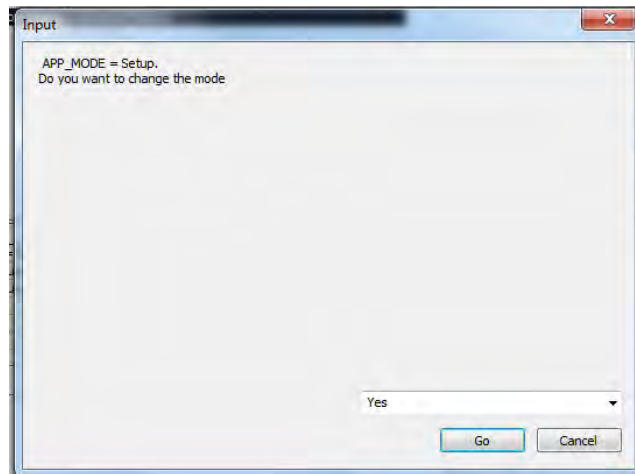
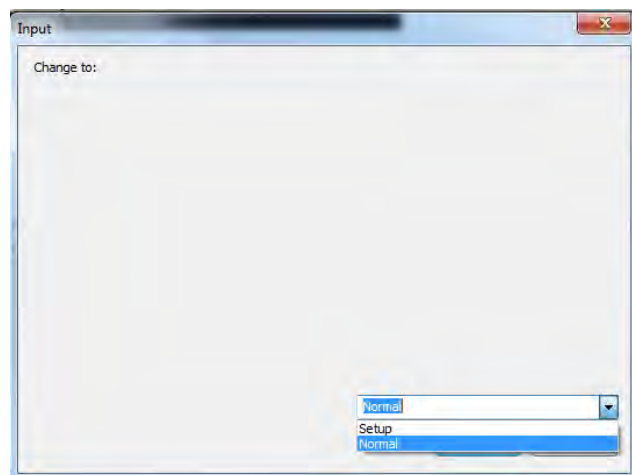

Figure 105 Initial Mode
Figure 106 Mode Selection
2. Ensure *Yes* is shown in Figure 105, then click **Go** and Figure 106 appears.